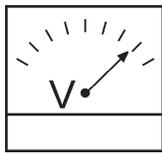
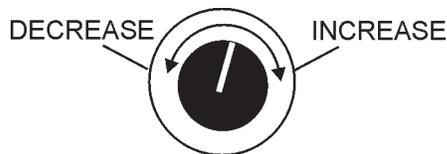

Figure 43. Voltmeter
Figure 44. Voltage Adjust Control Knob
7. The generator's AC-voltmeter (Figure 43) will display the generator's output in **VOLTS**. If the voltage is not within the specified tolerance, use the voltage adjustment control knob (Figure 44) to increase or decrease the desired voltage.